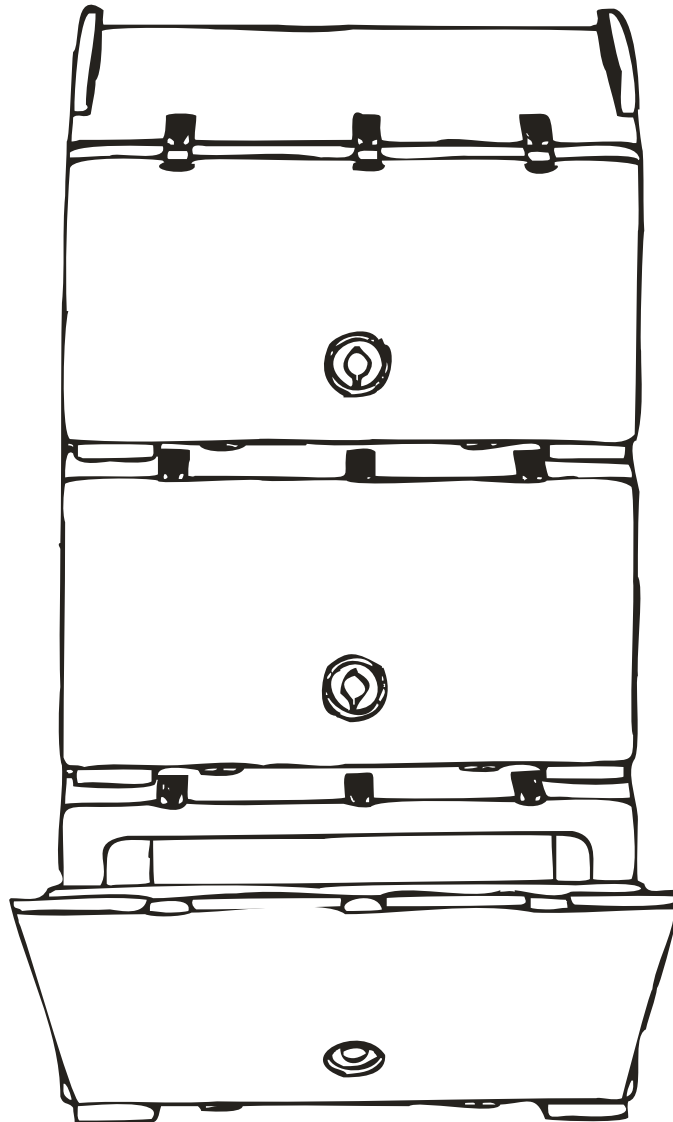

Figure 1-12. Side-Loading Pan Carriers
b. Side-Loading Pan Carriers. Three stackable, side-loading pan carriers are used to store 18 hot tray packs, which are heated prior to arrival at a feeding site. The heated tray packs are fitted into insulated tray pack holders, with lids, then placed into the side-loading pan carriers. Combined with 18 tray packs in the heater and those heated on site, a single HMMWV is capable of delivering at least 250 hot meals to the field at one site. Figure 1-12 illustrates the side-loading pan carriers.